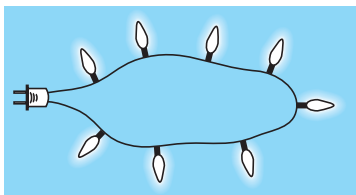

FIG. 5.99
- Eight holiday lights are connected in series as shown in Fig. 5.99.